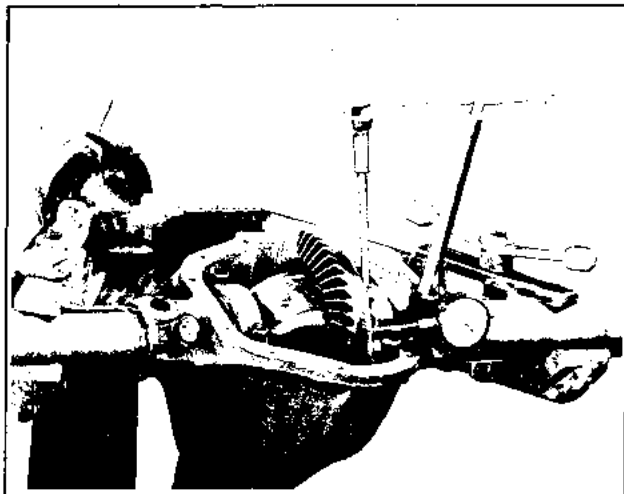

Figure 2B-23. Dial Indicator Gage Set Up
11. Note figures etched on drive pinion (22) end. See Figure 2B-25. Four sets of figures are etched on drive pinion. One figure is found on both the drive pinion and the drive gear and identifies a matched set. Directly opposite this figure will be one with a (+) or (-) before it, or, if not a (+) or (-), the figure will be 0. This number must be positively identified before continuing with the assembly procedure. Midway between the two sets of figures described above are numbers and letters etched for manufacturing purposes only, but as one of these numbers may be (0) and might be confused with the number needed for assembly procedure, a rule to follow would be to first examine the shaft end for a (+) or (-) number, and only if a (+) or (-) number is not etched on the shaft, will the number be (0).